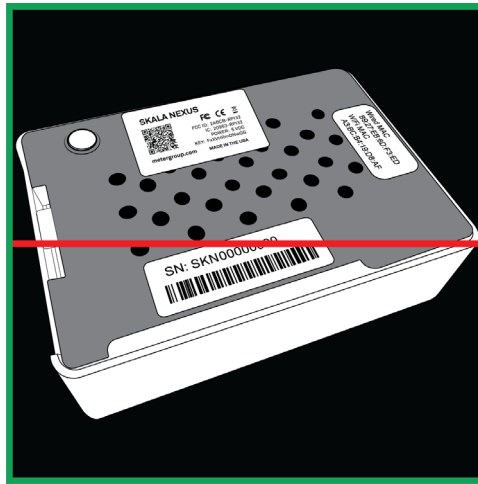

Figure 30 NEXUS in camera window
7. Place the QR code in front of the camera window and inside the green box (Figure 30).